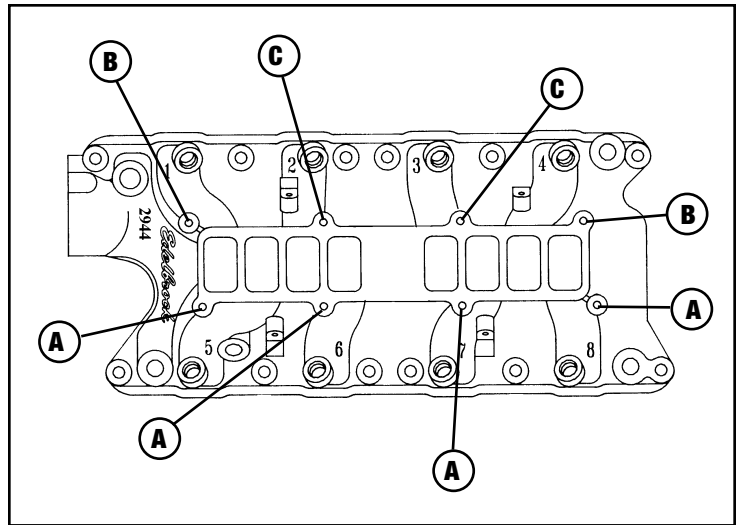

Figure 1—Intake Manifold top-to-bottom fastener locations
4. Install upper-to-lower manifold gasket (dry), Fiber Laminate Spacer, another upper-to-lower manifold gasket, and upper manifold using hardware supplied (see Figure 1 and Fastener Location chart). Upper manifold must be positioned so that the throttle body is on the passenger side of vehicle, not driver's side.